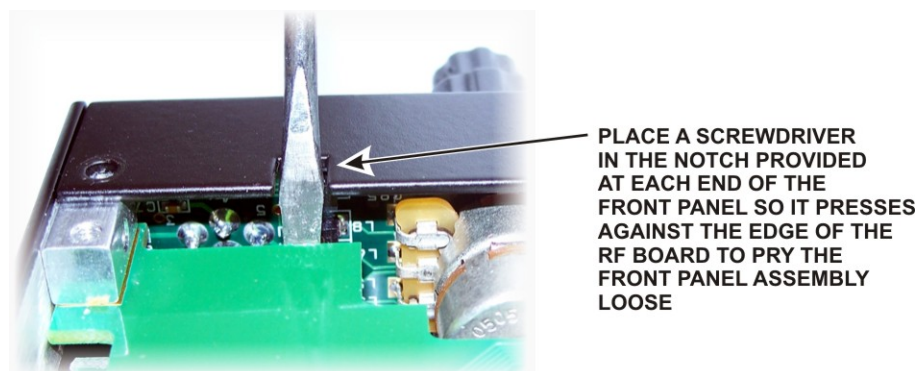

Figure 6. Separating the Front Panel Assembly from the Chassis.
- Use a screwdriver in the pry tool openings to press back against the circuit board while pushing the lip on the front panel assembly toward the front as shown in Figure 6. **Do not insert the screwdriver any farther than necessary to avoid damaging components!** When you have the front panel assembly free, set the main chassis aside in a safe place.